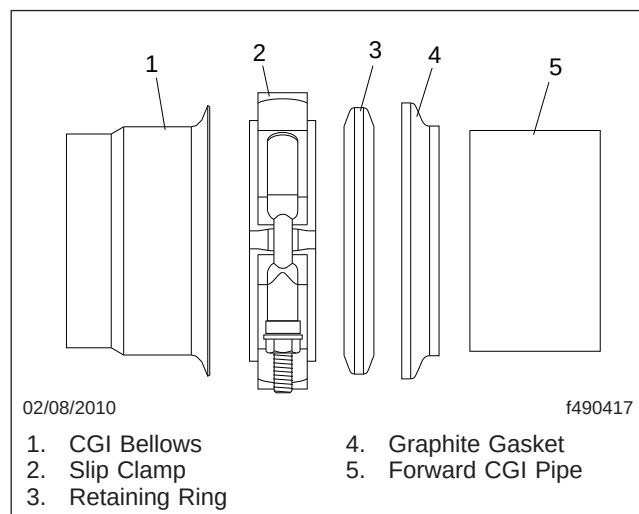

Fig. 13, Forward Facing Slip Clamp Installation
13. Install the slip clamp with the retaining ring and graphite gasket ring onto the forward CGI pipe. See **Fig. 13** for proper installation.